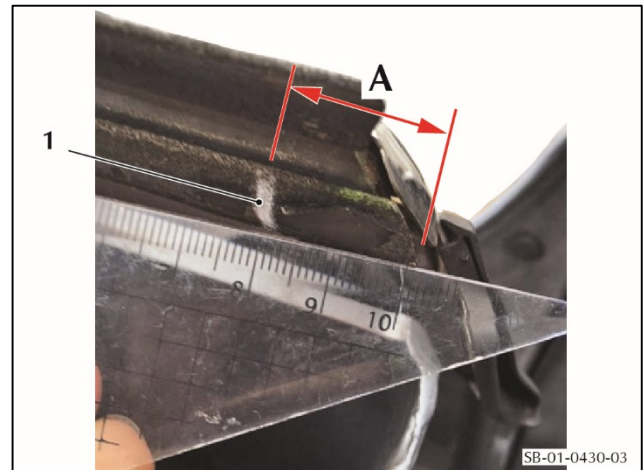

Figure 3
3. Measure dimension "A" 20 mm from the end of the waist seal and make a mark (1) on the bottom flange of the seal (refer to Figure 3).